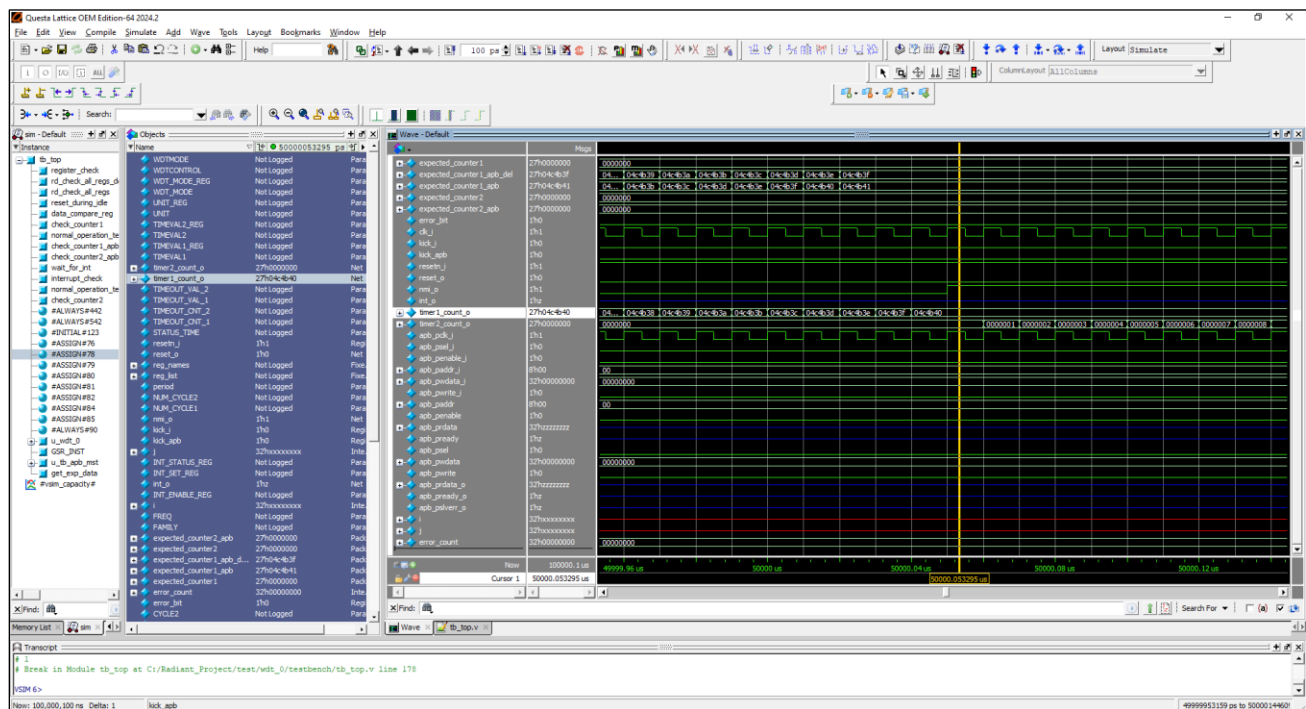

Figure 7.8. Simulation Waveform
5. Click **Finish** to run the simulation. The waveforms in Figure 7.8 shows an example simulation result.